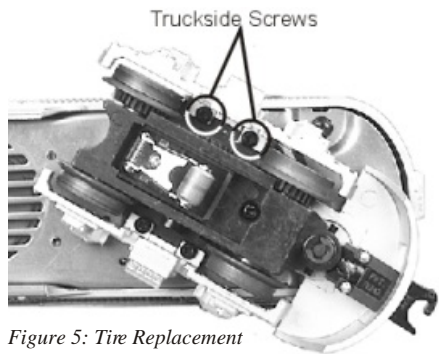

Figure 5: Tire Replacement
1. Remove the truck sides from the truck block in order to slip the new tire over the grooved drive wheel. To do this, remove the screws as shown in Fig. 5.